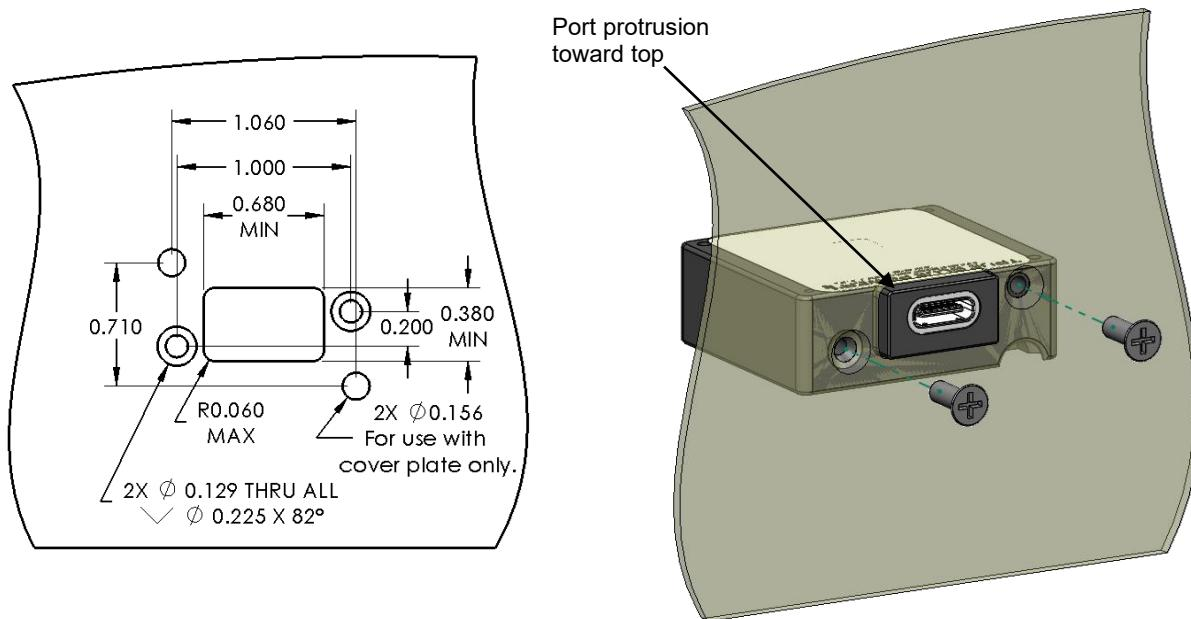

Figure 3.3
- Prepare the panel cutout as shown in Figures 3.3 thru 3.12 per the selected mounting option.